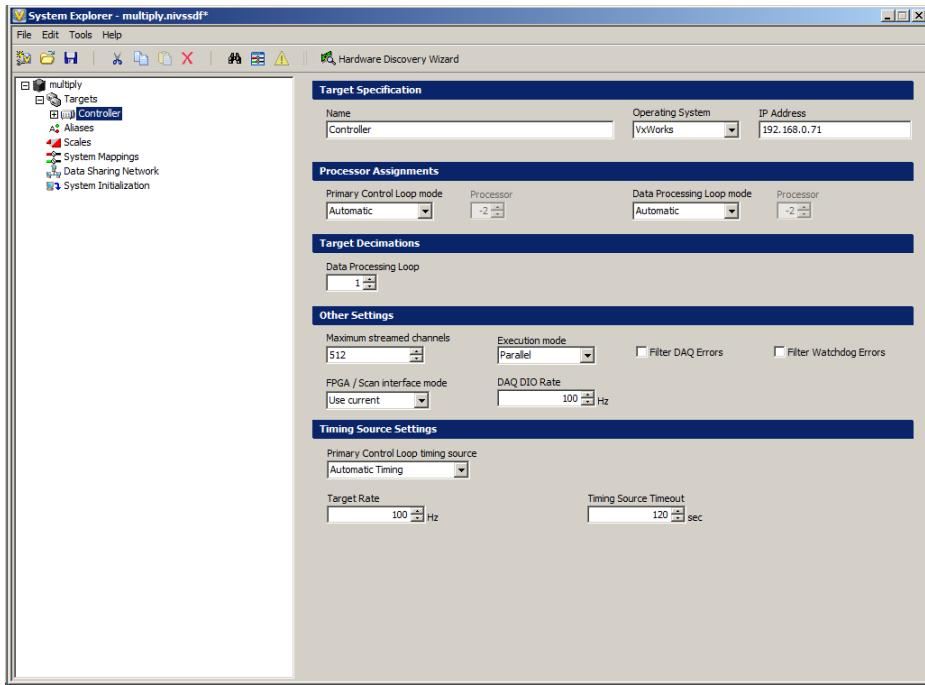

Figure 16: VeriStand - System Explorer - Controller
1. Set the correct controller operating system and IP address, as in Figure 16. All HIL and MC lab IP addresses are given in Table 7. Also, note the target rate.